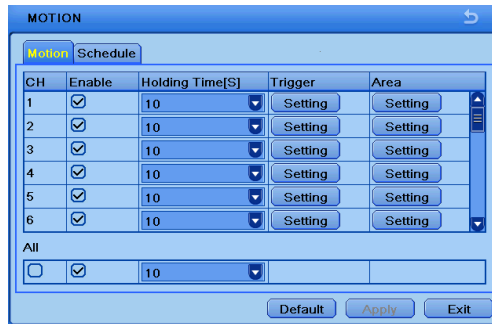

Fig 4-19 Alarm Configuration-Motion
- ① Go to Main Menu→Setup→Alarm →Motion. Refer to Fig 4-19.